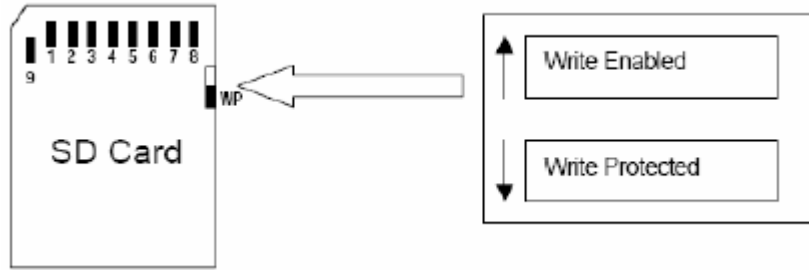

Fig 3 - SD Card Pin Designation
- Fig 3 - SD Card Pin Designation